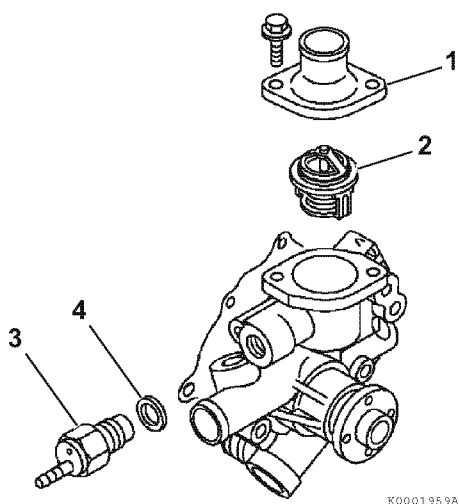

Figure 8-5
7. Remove the thermostat cover (Figure 8-5, (1)).
8. Remove the thermostat (Figure 8-5, (2)). Remove the temperature switch (Figure 8-5, (3)) and gasket (Figure 8-5, (4)). Discard the gasket.